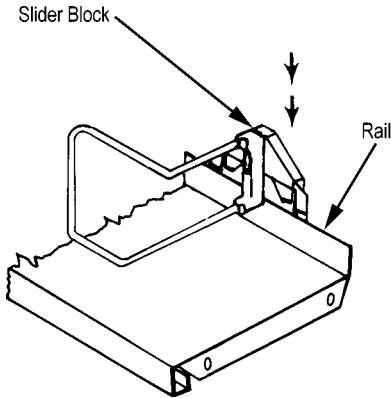

FIGURE 39A
1. To engage sliding support, place slider block directly over rail and snap in place. See Figure 39A.